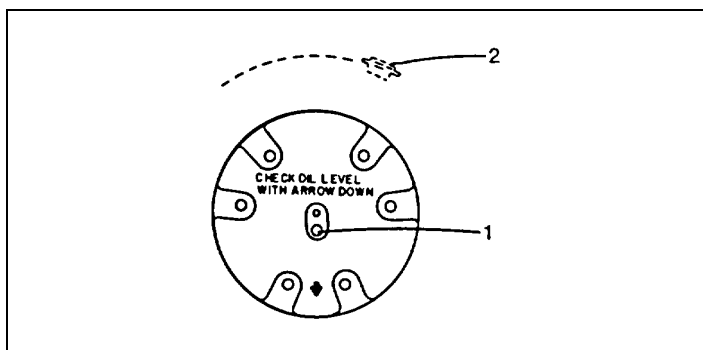

Fig. 2-4 NA354-A
- (b) Rotate the wheel end until the arrow on the thrust cap is down as shown in Fig. 2-4. Set the parking brake. Shut off the engine.